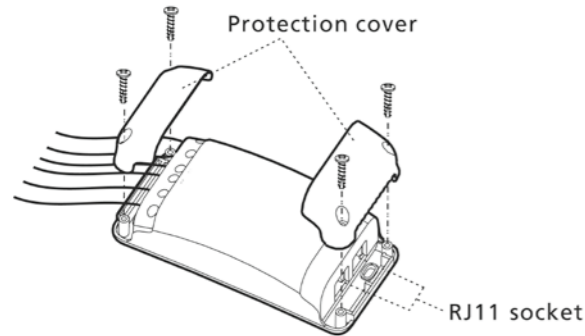

Fig. 7
- Unscrew protection covers on the power box with a cross point screwdriver. The RJ11 socket (use sensor A only) is for the sensor connection and screw terminals are for power and load(s). (See Fig. 7).